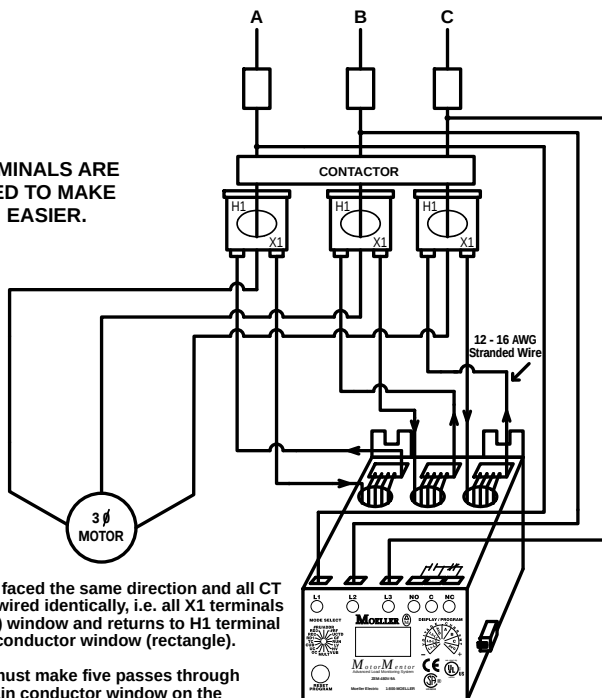

Figure 2: Typical Wiring Diagram Using External CTs.
C) For amperages greater than 90 amps, external CT's (current transformers) are required. CT's with terminals are recommended for ease of installation. All CT secondaries must make five passes through the round holes on the Motor Mentor. See figure 2 for a typical wiring diagram using external CT's.
▼ EXTERNAL CTs REQUIRED. SEE FIGURE 2 FOR WIRING EXTERNAL CTs. ▼